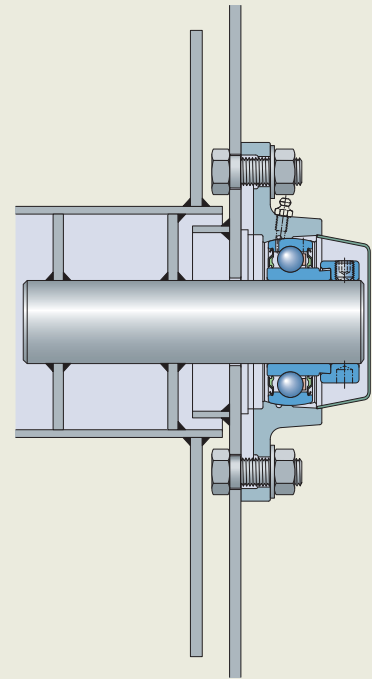

Fig. 31
- Hexagon socket grub (set) screws with a dog point, in accordance with ISO 4028, but with a fine thread according to table 10. The grub screw should be secured by a nut and a spring or star lock washer (fig. 31).